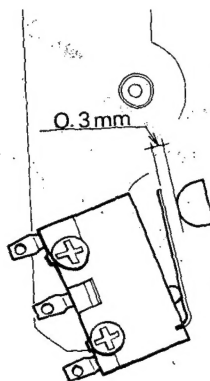

Fig. 22
- 2) By gently pressing the STOP control the microswitch will come on. Check to see if the motor is rotating at this point. Next, by releasing your finger from the STOP control the button will return, and when the microswitch goes OFF, check to see if there is a gap of approximately 0.3mm between the lever switch and the microswitch. (See figure 22)